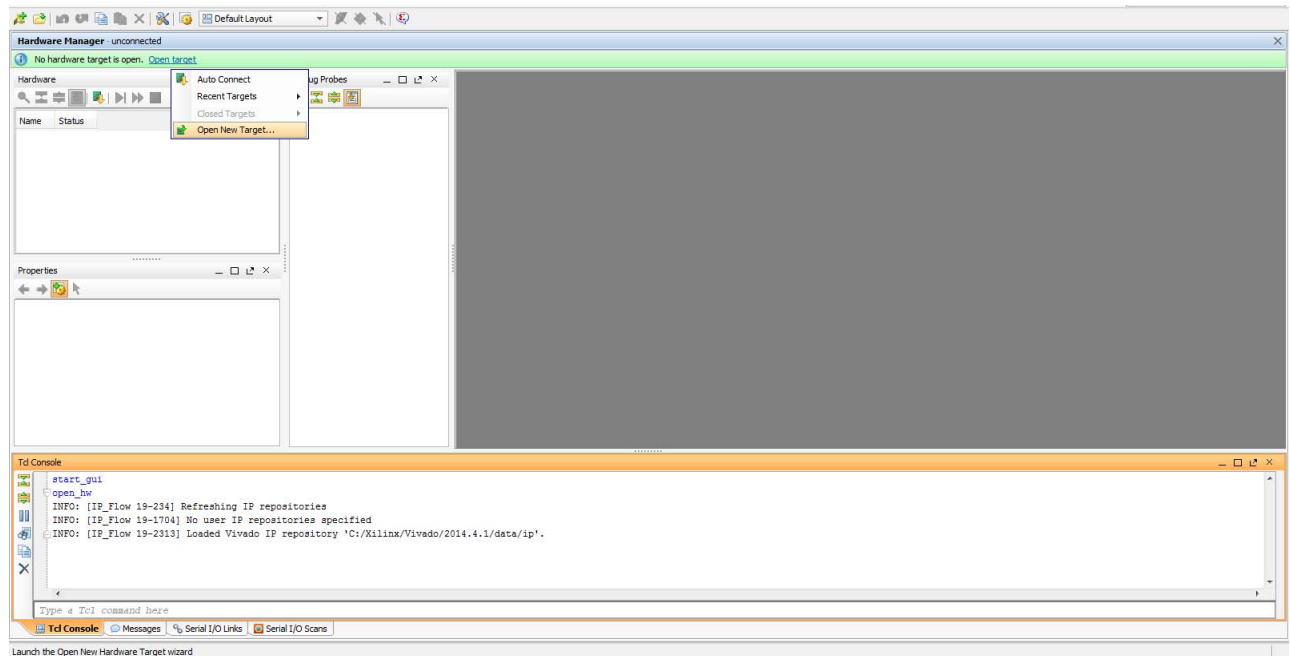

Figure 9: Programming the BIT File
- Open the connection wizard to initiate a connection to the KCU105 board. Click **Open Target > Open New Target** (see Figure 9).